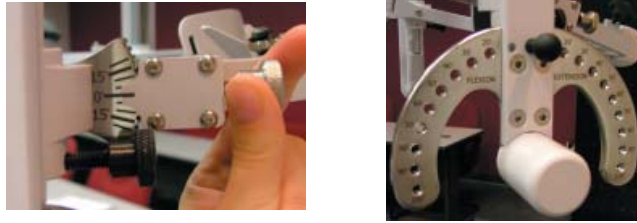

Figure 6-20. Set halo angles
Step 10. Set the halo to 0 degrees with respect to the horizontal. Make sure the flexion/extension angle is set to 0 degrees as well (Figure 6-20).